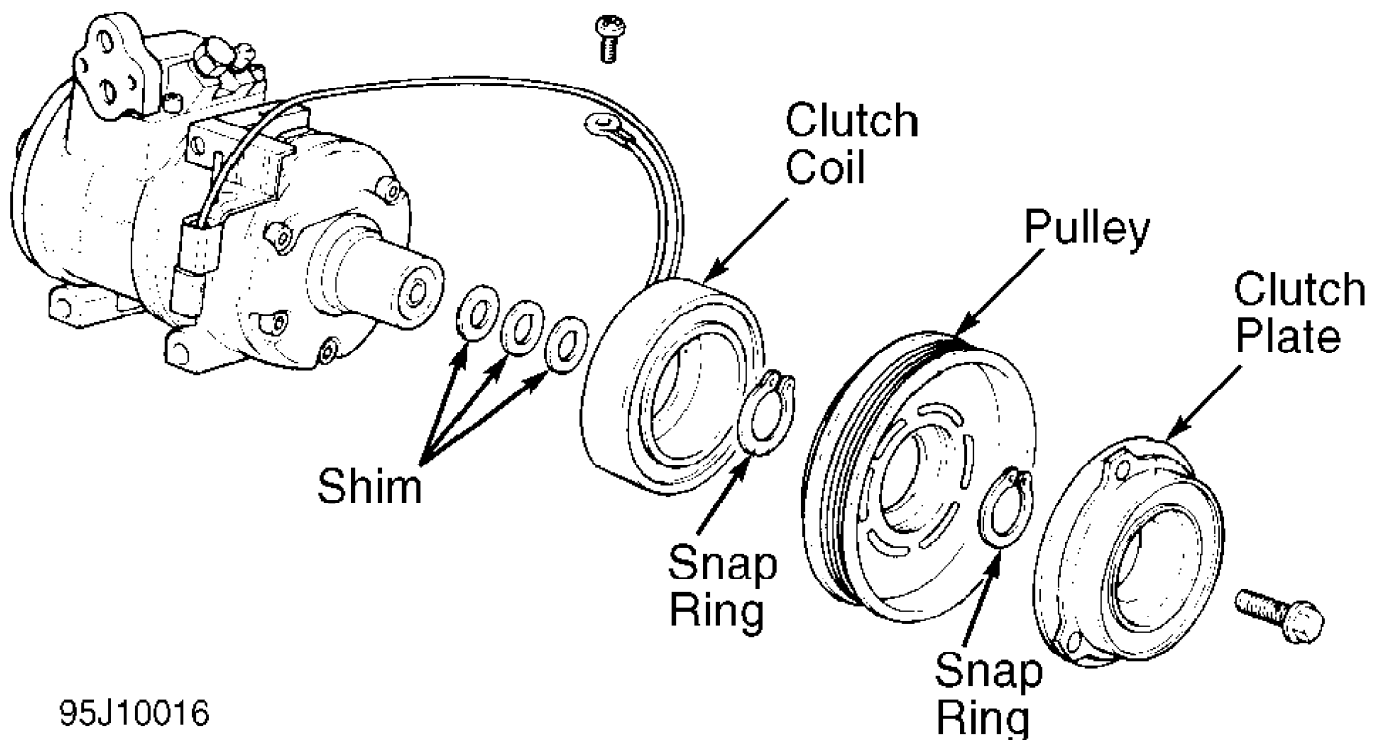

Fig. 3: View Of Nippondenso 10PA17C 10-Cyl. Compressor (Diamante Wagon & Expo)
NOTE: Remove compressor through-bolts and front housing to remove shaft seal. See Figs. 3 and 4. Alternately tighten through-bolts to 18-21 ft. lbs. (24-28 N.m).
1) Remove clutch plate and pulley. Remove shim(s) from shaft. Remove clutch coil if necessary. Remove felt and felt retainer (if equipped). See Figs. 3 and 4. Place shaft key remover on shaft and turn to remove key.